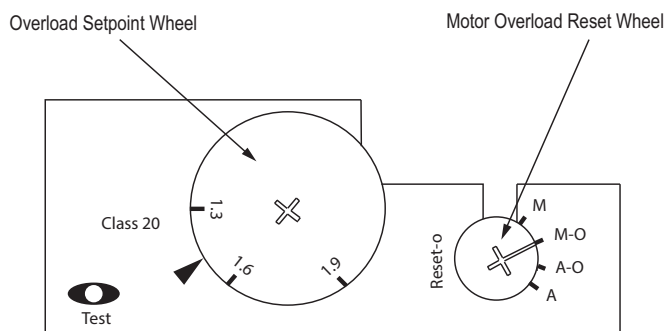

Fig. 10 — Motor Starter Setting
1. On the starter, adjust the Motor Overload to match the **FLA Rating** of the installed motor by turning the Overload Setpoint wheel to the appropriate value. See Fig. 10. Condenser motor FLA ratings are listed in Table 13.